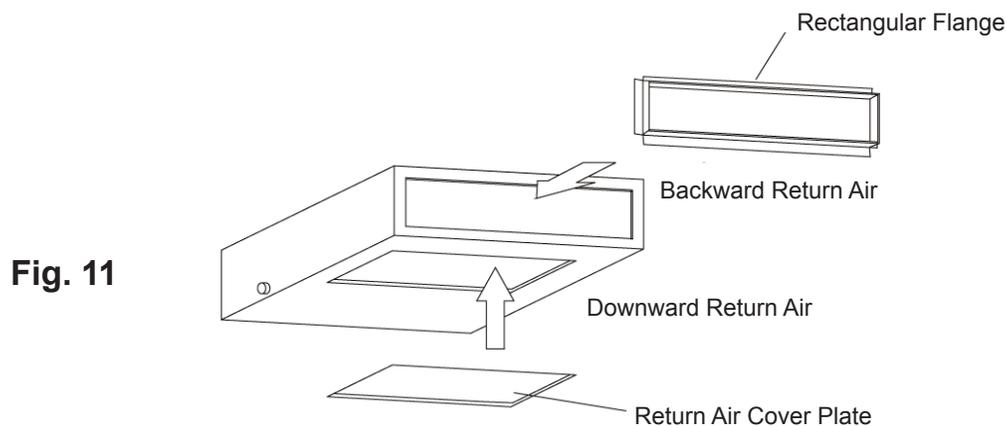

Fig. 11
- (1). The default installation location of the rectangular flange is in the back and the return air cover plate is in the bottom, as shown in Fig. 11.